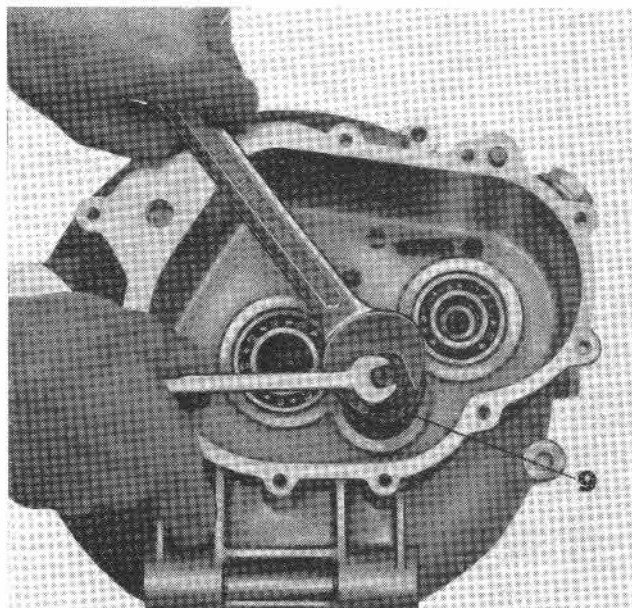

Fig. 80
- Roller bearing for mainshaft, using puller No. 12913100 (see 9 on Fig. 80).